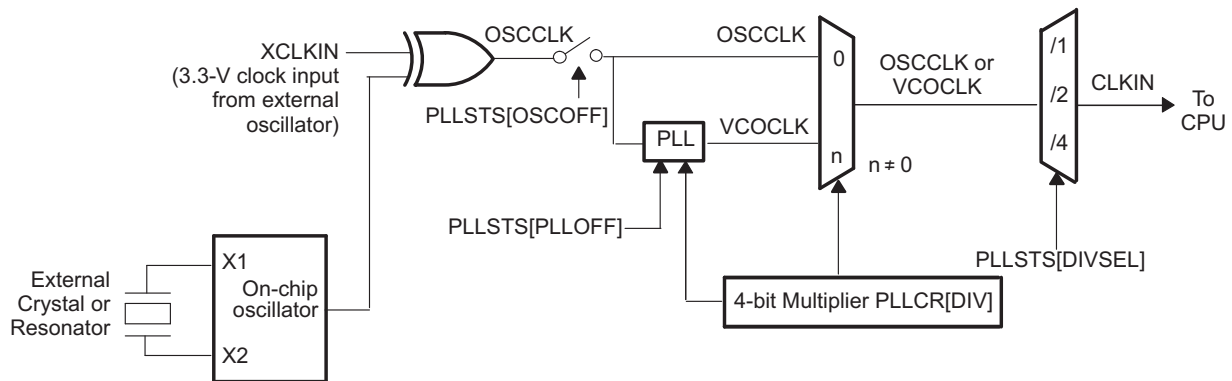

Figure 3-7. OSC and PLL Block Diagram
- A. CLKIN is the clock into the CPU. It is passed out of the CPU as SYSCLKOUT (that is, CLKIN is the same frequency as SYSCLKOUT). See Figure 3-7 for an illustration of how CLKIN is derived.
Figure 3-7 shows the OSC and PLL block.